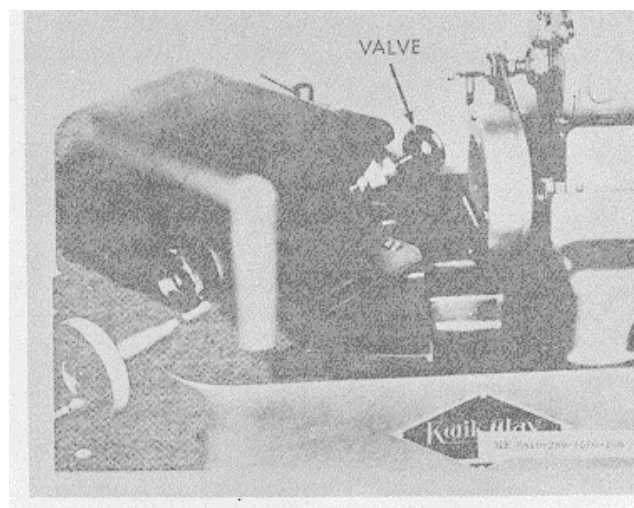

Figure 3-154. Valve grinding.
1. Check valve on guide area of stem, figure 3-154. Relieved portions on both ends of guide area are not necessarily concentric to guide area of stem.